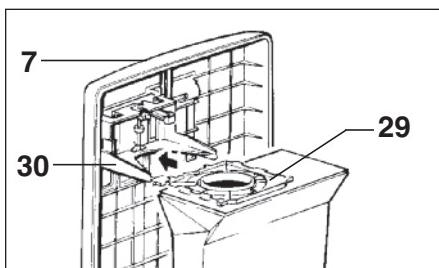

Figure 9
Changing the Dust Bag - *Figure 9*
2. Bag not inserted properly	2. Reinsert bag with cover release flap (5) up, until firmly latched in bag holder (see pg. 8, figure 9).